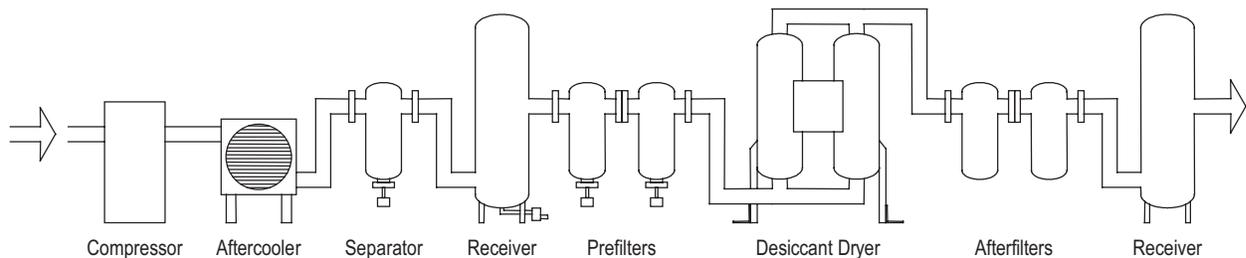

Figure 4-1
**NOTE:** The air compressor should be adequately sized to handle air system demands as well as purge loss. Failure to take this into account could result in overloading air compressors and/or insufficient air supply downstream. It is desirable to install the dryer where the compressed air is at the lowest possible temperature (downstream of aftercoolers) and the highest possible pressure (upstream of pressure reducing valves) without exceeding the maximum operating pressure of the equipment. (Refer to Figure 4-1)